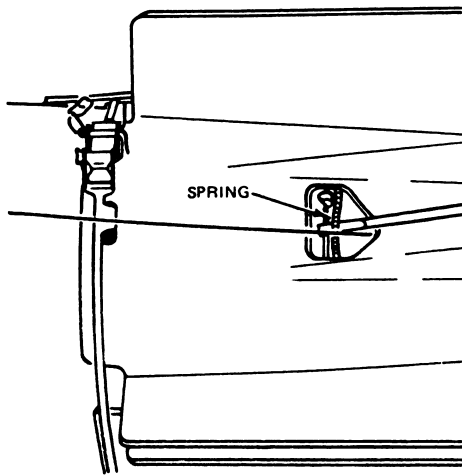

Figure 12-44.—Peeling garter spring out of groove with screwdriver.
17. Keeping the fin pressed against the aft end of the bomb, you should peel the garter spring out of its groove by using a screwdriver or your fingers (fig. 12-44). Then work it through the four access holes in the fins.